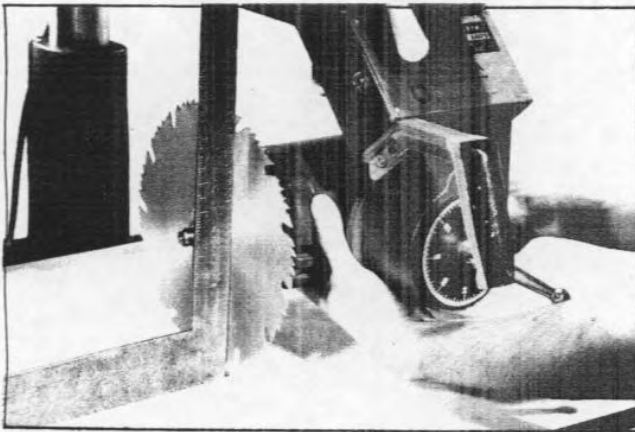

Fig. 23
4. Holding the cuttinghead with both hands, tilt the motor until the square is flush against the saw blade, as shown in Fig. 23.